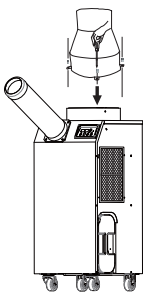

Figure 6
3. Use screws (enclosed inside of box with exhaust flange) to install exhaust flange on air conditioner as shown in Figure 6.